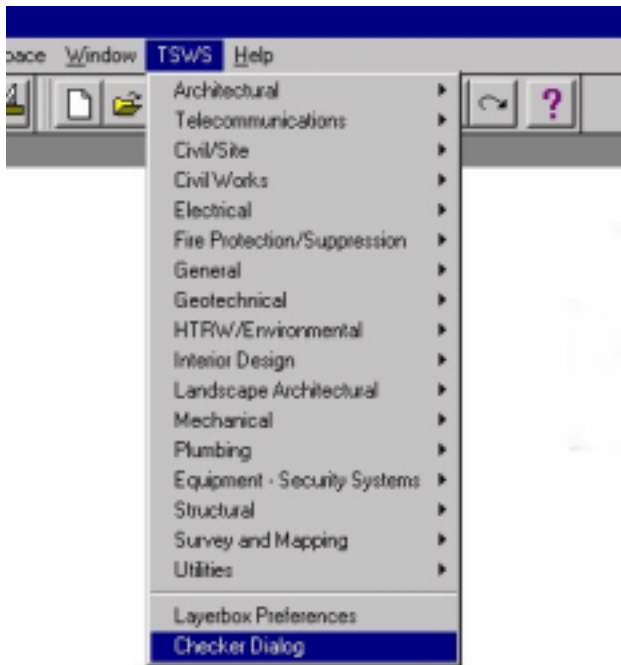

Figure 1 – Opening the Checker Dialog Box
2. Pick *Checker Dialog* from the TSWS menu listing (Figure 1).